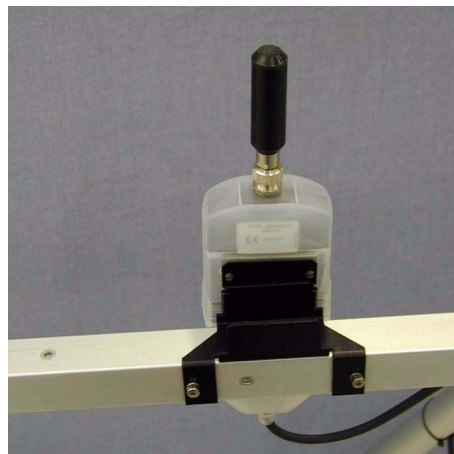

Figure 60 **Radio Modem and the Fixture**
2. Install the radio modem to the fixture, see Figure 60 on page 75.